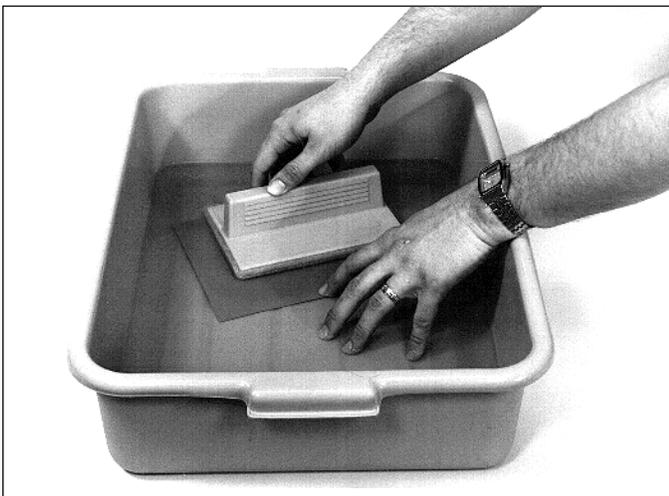

Figure 5. Washout Tray & Brush In Use
17. With light pressure, vigorously agitate the washout brush on the surface of the cliché for two minutes (see figure 5).